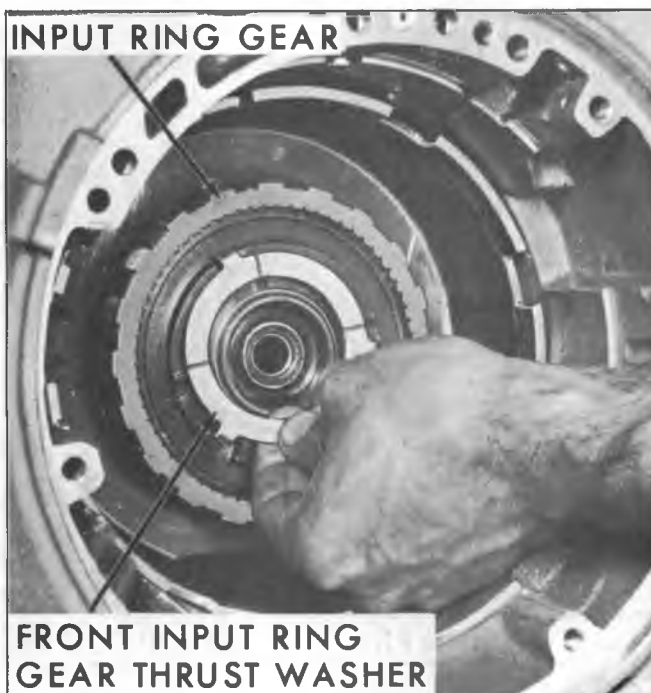

Fig. 34M--Removing Input Ring Gear Front Thrust Washer
8. Remove input ring gear front thrust washer (fig. 34M).